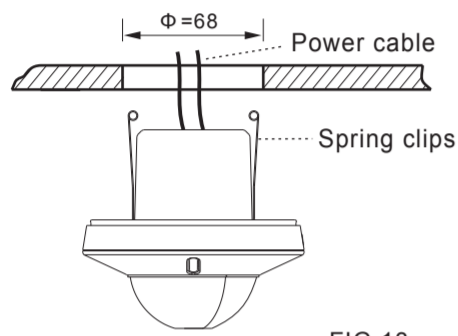

FIG.13
3.4.2.4 Close up detector's two spring clips and insert detector into the drilled hole on ceiling (See FIG.13).